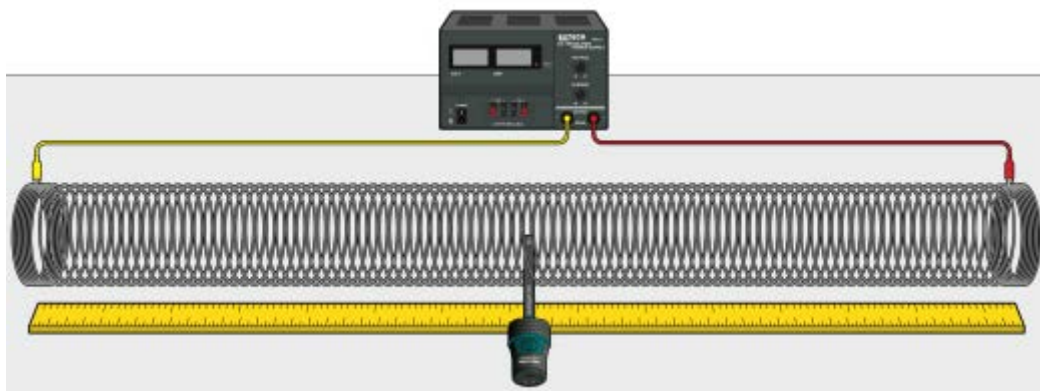

Figure 1
4. Set up the circuit and equipment as shown in Figure 1.